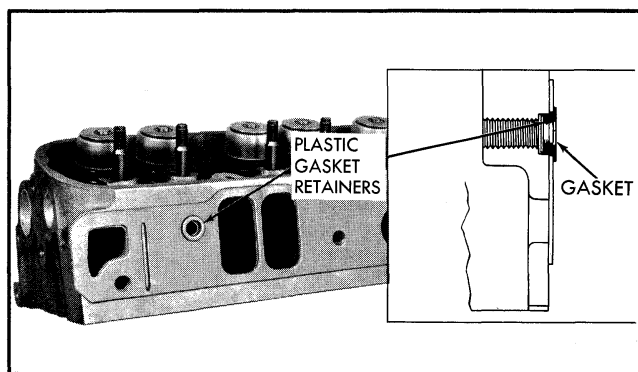

Fig. 6-95 Installing Intake Manifold Gasket
1. Install new gaskets on cylinder heads, positioning them with plastic retainers (Fig. 6-95).